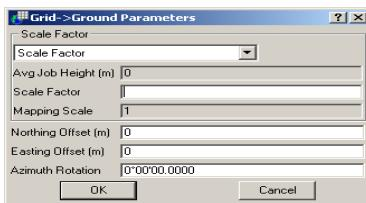

Figure 3-50. Grid->Ground Parameters Dialog Box
3. On the ***Grid->Ground Parameters*** dialog box, enter the transformation parameters (Figure 3-50).